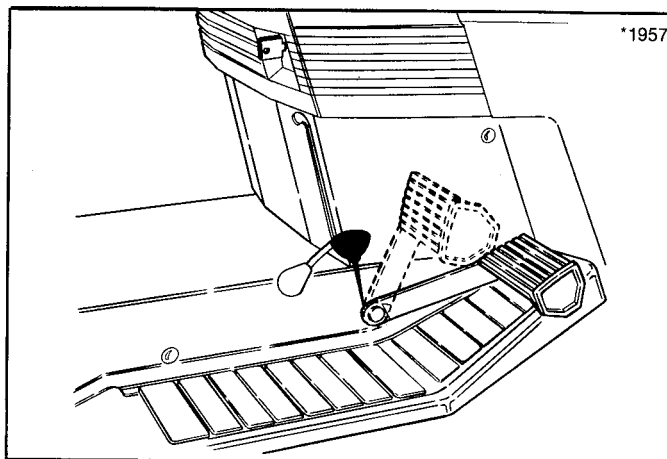

Figure 6. Lubricate Brake Pedal Pivot Point
1. With an oil can, apply a few drops of oil to points indicated with oil can in figures 6 through 12.